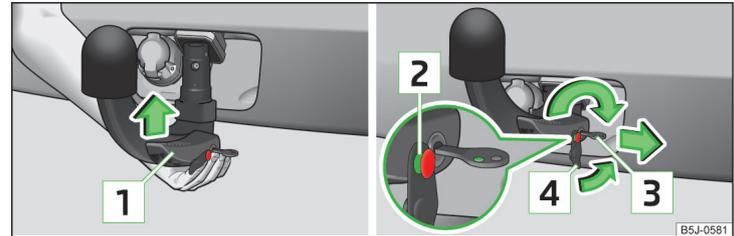

Fig. 126 Insert the ball head/lock the lock, and put the lock cover on
- Grip the tow bar **from underneath** » Fig. 126 and insert into the mounting recess until you hear it click into place » **i**.
Lever **1** » Fig. 126 **automatically** turns upwards and the release pin **2** pops out (its red and green parts are both visible) » **i**.
- Push cap **4** » Fig. 126 onto the lock in the direction of the arrow » **i**.